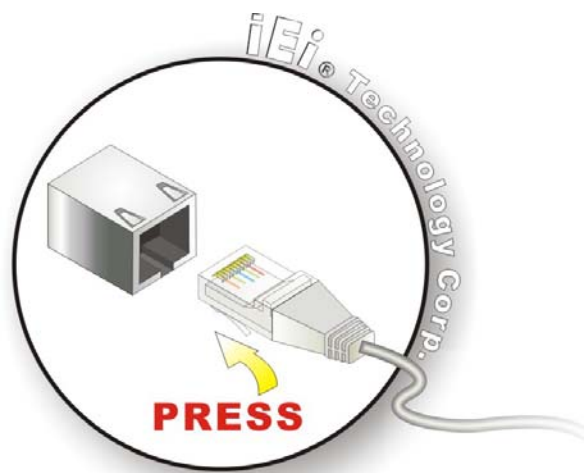

Figure 3-41: LAN Connection
Step 2: Align the connectors. Align the RJ-45 connector on the LAN cable with one of the RJ-45 connectors on the PPC-37xxA-N26. See **Figure 3-41**.